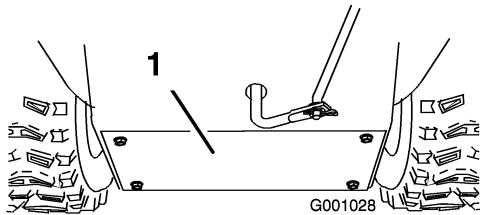

Figure 44
- Remove the back cover (Figure 44).